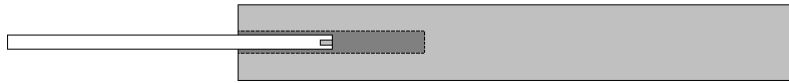

Figure 9: Detail of needle inserted in needle replacement tool notched end first
5. Place the replacement needle notched end first into the channel of the needle replacement tool. (See Figure 9.)